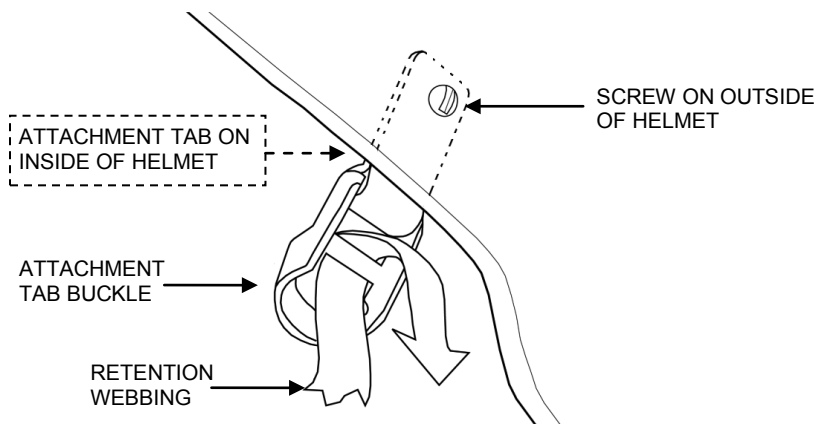

Figure 2. H-Back Retention System Breakout.
4. Remove the entire chinstrap retention system. Refer to Figures 2 and 3 for hardware specifics.